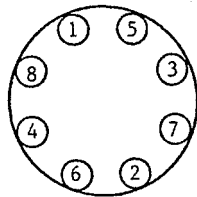

Figure 10
- 4.3.10 Lubricate the threads of the hex head screws (16) with 30 weight oil or anti sieze compound and assemble the lockwashers (17) onto the screws. Install the screws and using the assembly sequence shown in **Figure 10**, tighten the screws to 150 ft-lb., lubed.
- 4.4.3 Remove the hex head screws (16) and lock-washers (17) in alternating sequence, two turns at a time (Refer to **Figure 10**). With these removed, the end plate (12), diaphragm (11), outer clamp ring (10), inner clamp ring (13), hex head screws (14)(21) and lockwashers (15) can be removed as an assembly.
- 4.4.9 Lubricate the threads of the hex head screws (16) with 30 weight oil or anti sieze compound and assemble the lockwashers (17) onto the screws. Reassemble the end plate (12), spring
housing (8) and pressure plate (7) with hex head screws (16) and lockwashers (17), tightening the screws in alternating sequence, no more than two turns at a time, per **Figure 10** until seated.